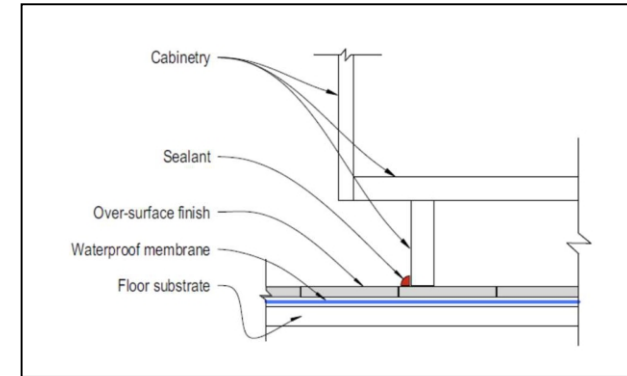

Figure 16: Tiles and waterproof membrane system under cabinet
- ◆ Figure 16: Tiles and waterproof membrane system under cabinet